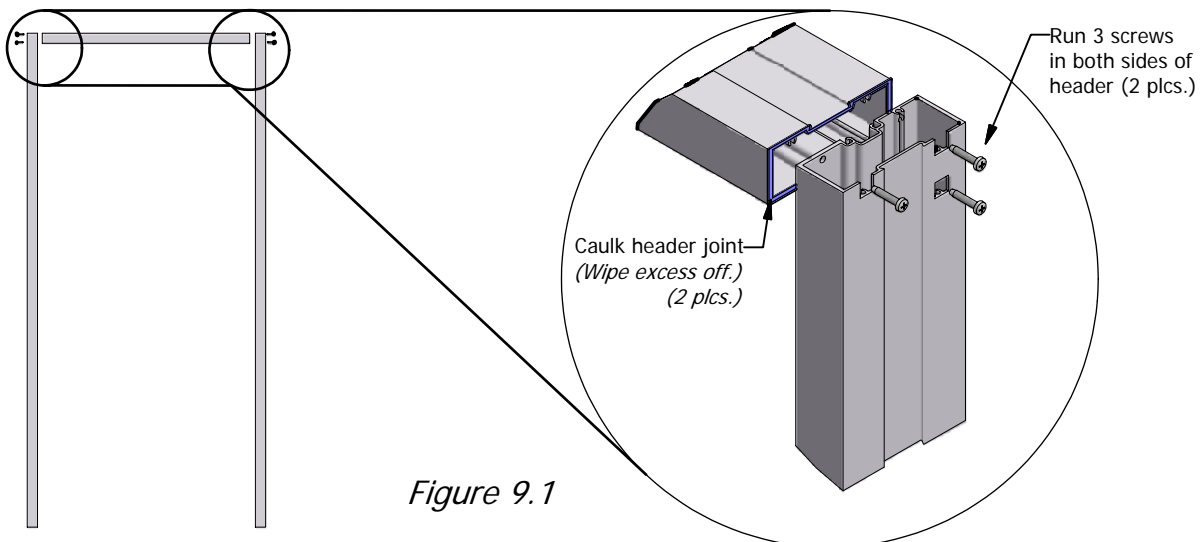

Figure 9.1
- B.) Follow *Figures 9.1* and *9.2* for assembly of frames. All frame joints have been pre-drilled and applied in the factory. For shipping purposes, some frame joints need to be removed and applied in the field. ***All frame joints that are not factory-applied need to be caulked.***